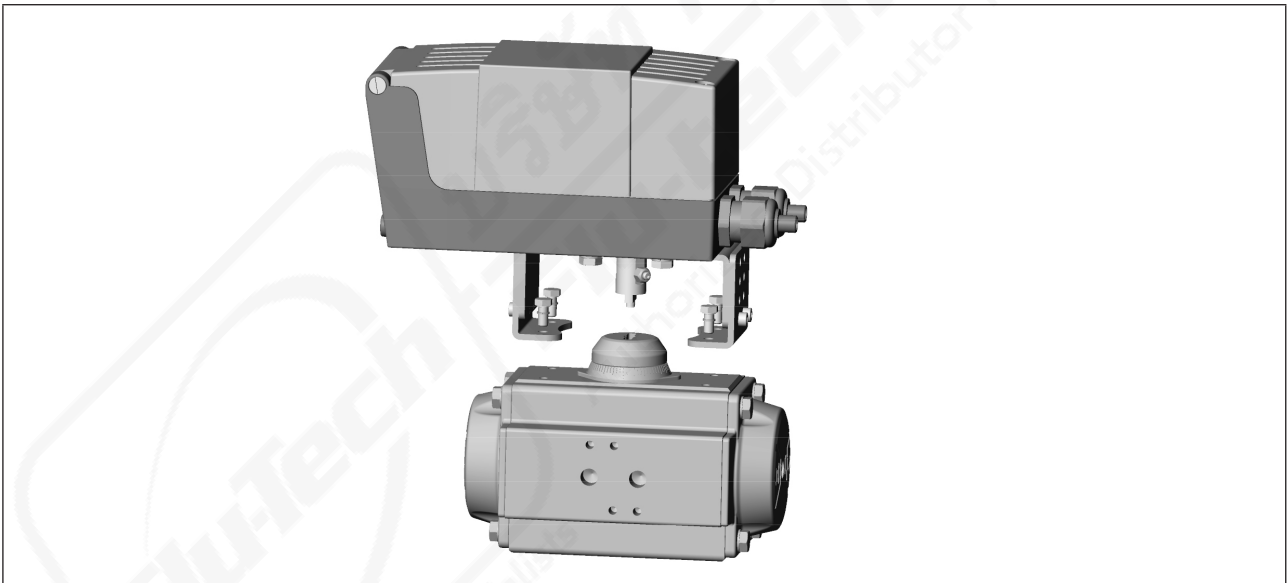

Figure 24: Mounting the SideControl on the rotary actuator
- Place the SideControl with the assembly bridge on the rotary actuator and attach it using 4 hexagon bolts ⑥ (see “Figure 24”).